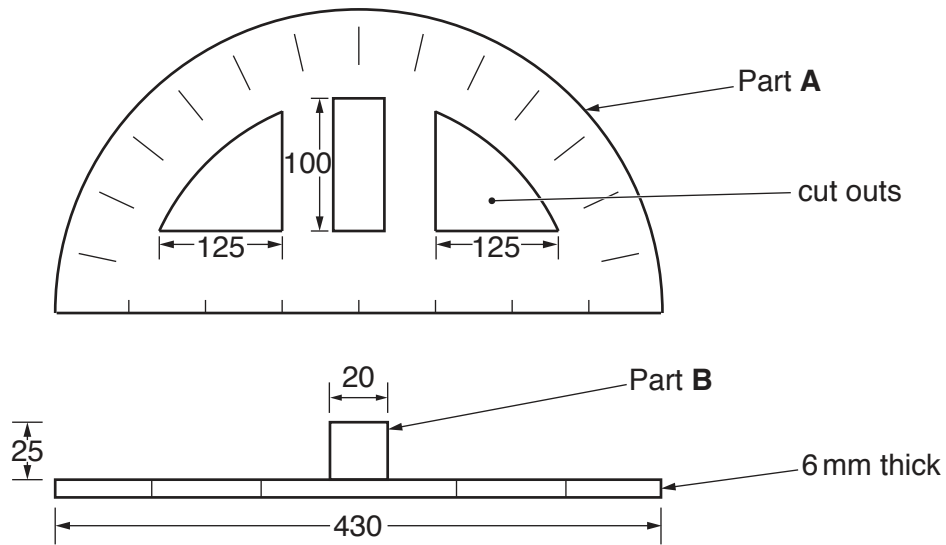

Fig. 3.1
- 3 Fig. 3.1 gives details about a large protractor made from plywood, which is to be produced in a school workshop. The protractor is made in two parts.